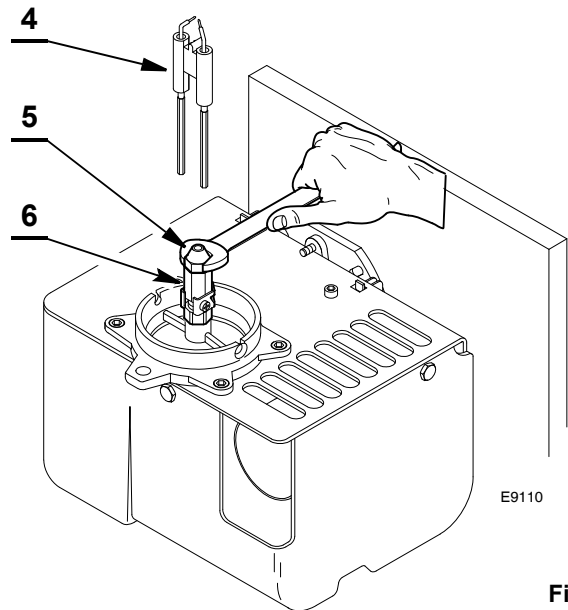
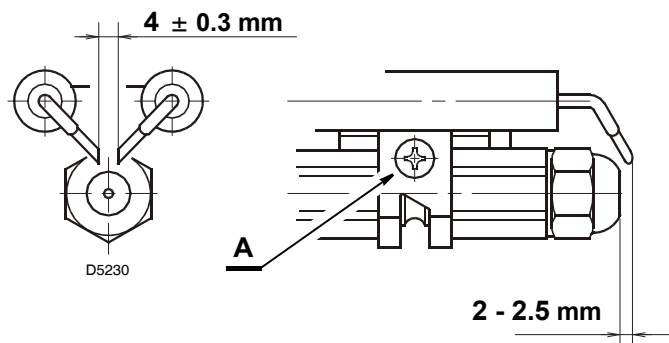

Fig. 22
Fig. 23
- Remove the electrodes assembly (4) (Fig. 22) from the nozzle holder (6) after losing its fixing screw (A), (Fig. 23).
- Replace the nozzle (5) (Fig. 22) and screw the new one on properly, holding it as illustrated in figure.
Before removing or assembling the nozzle, loosen the screw (A, Fig. 23) and move the electrodes ahead.